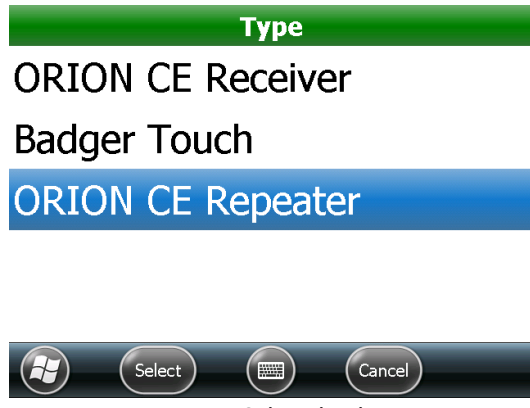

Figure 45: Select the device
2. Tap **Type** to see a list of device types to select from. Tap the device type you want to add. In this example, the **ORION CE Repeater** is selected (Figure 45).